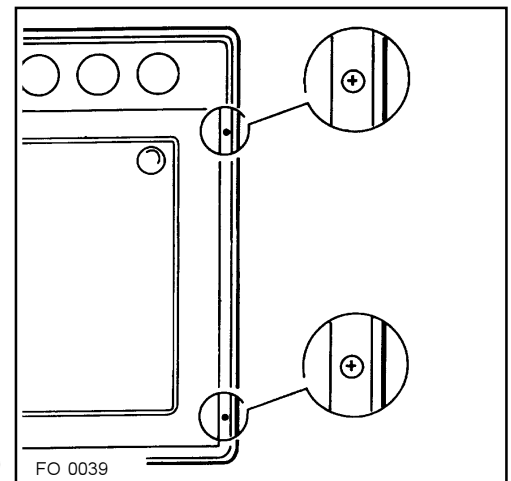

Fig. 10
- Open teh oven door and secure the oven to the kitchen cabinet with four wood screws, which fit the holes provided in the oven frame (Fig.10).